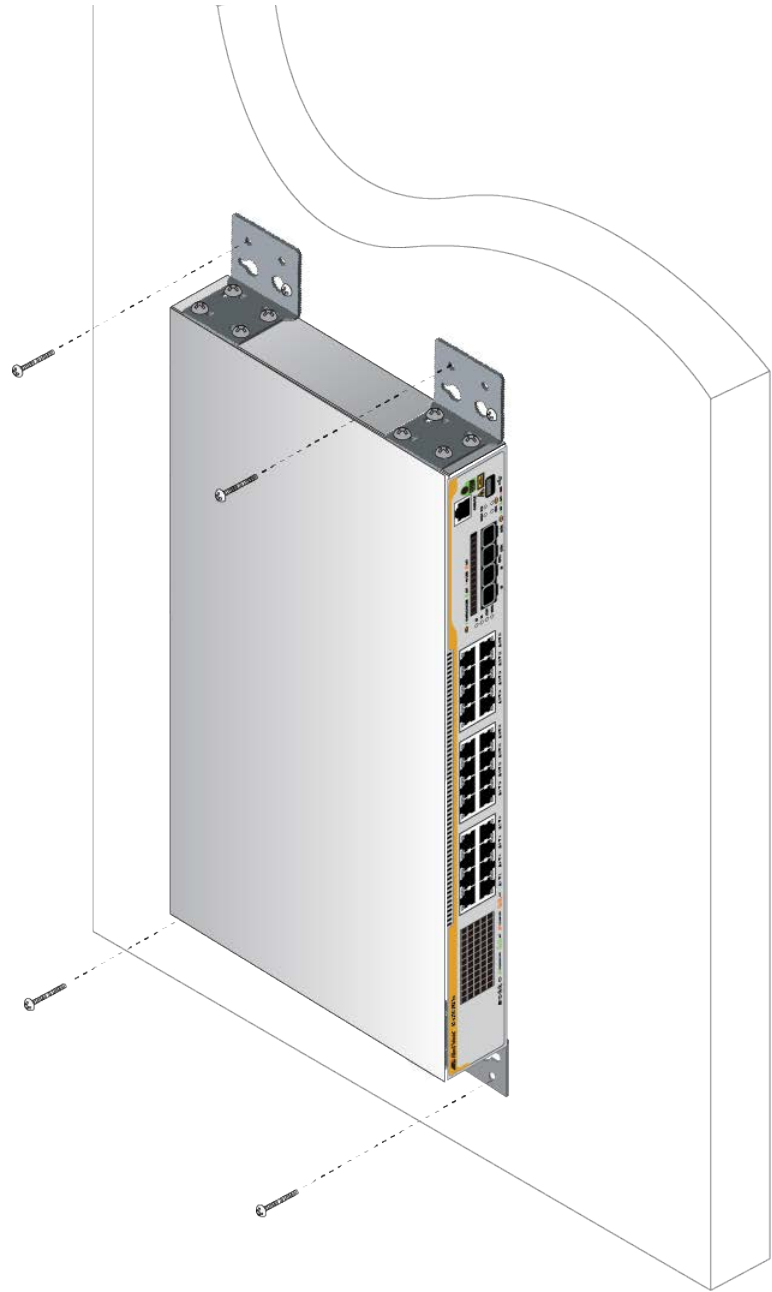

Figure 30. Screwing the Rest of the Screws
11. Install the other four screws to the rest of the pre-drilled holes. See Figure 30.